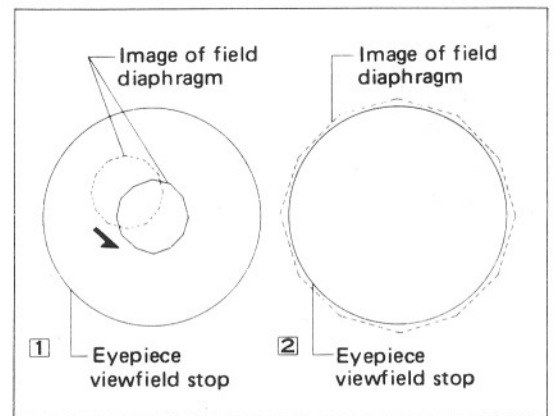

Fig. 11
- 2) Bring the field diaphragm image to the center of the field of view by means of the condenser centering screws. (Fig. 11 - ①)
- 3) Change over to the objective $40\times$, and adjust the field diaphragm so that the image of the diaphragm is about the same as the eyepiece viewfield stop, as shown in Fig. 11 - ②. If not centered, use the condenser centering screws again.